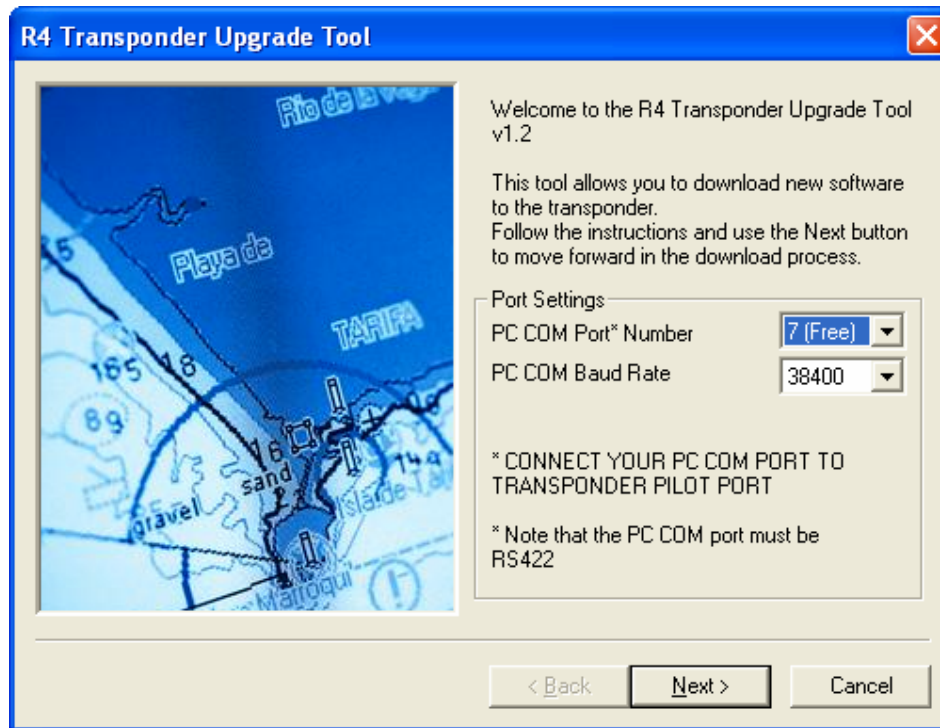

Figure 3: Port Settings Dialog
5. In the first dialog (Figure 3) the PC communication port number and Baud rate is selected.